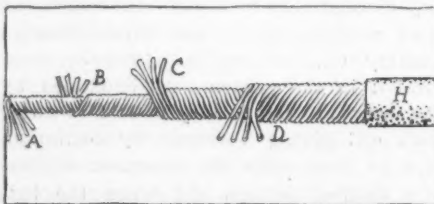

FIG. 38—WEBB FLEXIBLE SHAFT
**Webb Mfg. Co.**—This company's line consists entirely of flexible shafts, polishing, grinding and drilling apparatus and wire belts. The flexible shafts are of the wire cable type, Fig. 38, in which the strands of wire are wound upon one another to avoid internal friction when the shaft is rotated in a bent position. The illustration shows a series of windings A, B, C, D, all encased in the cover H.